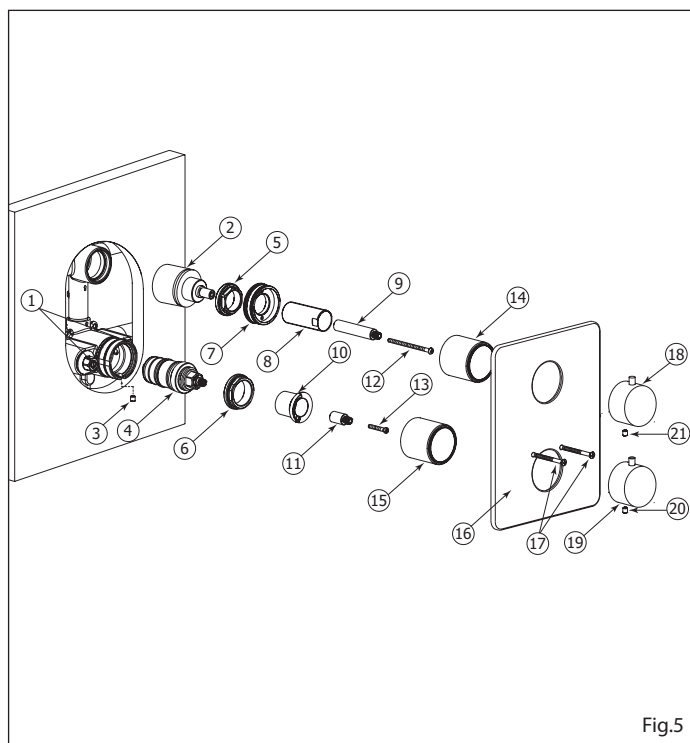

Fig.5
Shut off the main water supply, then remove all the components from (7) to (21). (See Fig.5). Afterwards, shut off the 2 check valves (1) by turning them clockwise with a screwdriver. Unscrew the screw (3), the large nuts (5 & 6) and remove the cartridges (2 & 4).
Fermer l'alimentation d'eau principale et démonter toutes les composantes de (7) à (21) (Voir Fig.5).